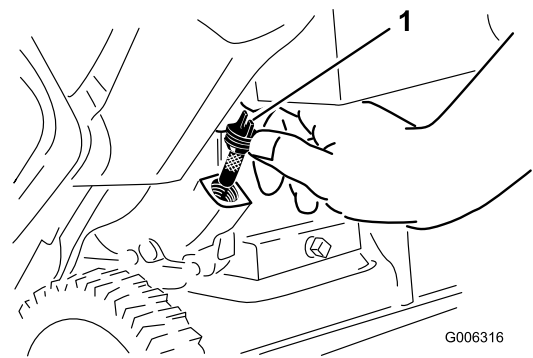

Figure 21
7. Unscrew the dipstick and remove it (Figure 21).